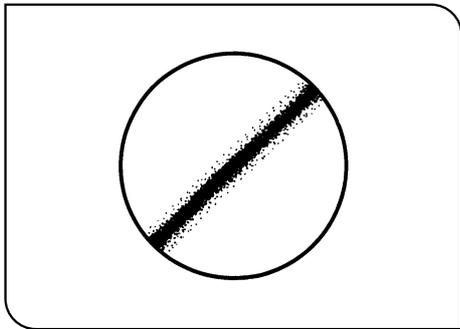

Fig. 40
4. Remove the eyepiece from the eyepiece sleeve, look into the sleeve, turn the polarizer rotation dial ② so that the black interference stripe (Fig. 40) is darkest, and tighten the clamping knob ③.